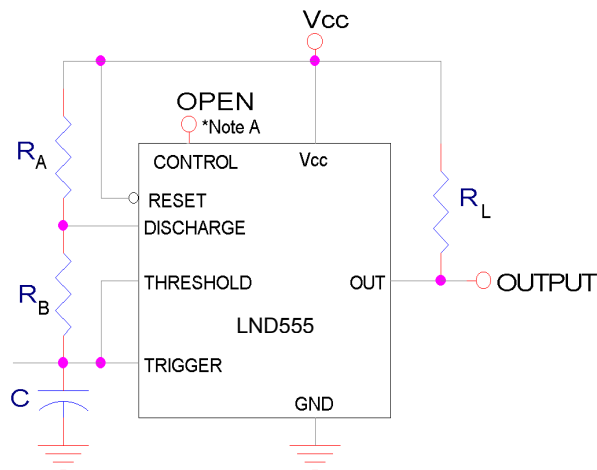

Figure 1 :Circuit for Astable Operation
1. This parameter influences the maximum value of the timing resistors R_A and R_B in the circuit on Figure 1. For example, when $V_{CC}=5V$, the maximum value is $R=R_A+R_B=3.4\text{ M}\Omega$, and $V_{CC}=15V$, the maximum value is $10\text{M}\Omega$.
5. Values specified are for a device in an astable circuit similar to Figure.1, with component values as follow: $R_A, R_B=1\text{K}\Omega$ to $100\text{K}\Omega$, $C=0.1\mu\text{F}$.